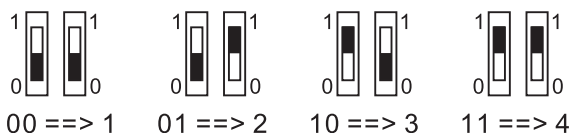

Fig. 5
1. DIP switch numbers 1 and 2 are reserved for setting up to 4 ID Codes: 00 ==> 1, 01 ==> 2, 10 ==> 3, 11 ==> 4, Fig. 5.